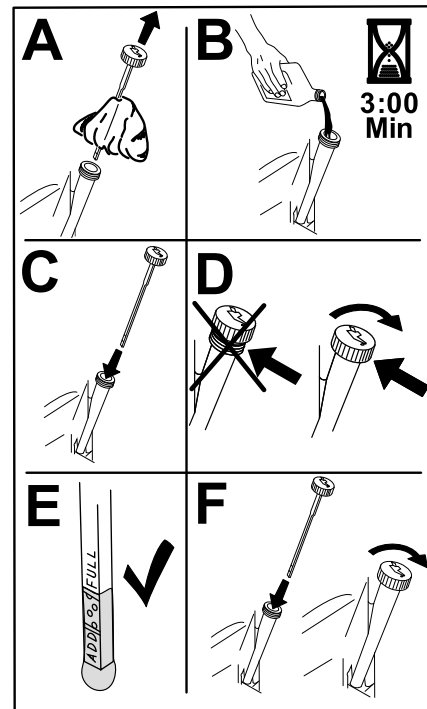

Figure 76
6. Slowly pour approximately 80% of the specified oil into the filler tube and slowly add the additional oil to bring it to the Full mark (Figure 76).